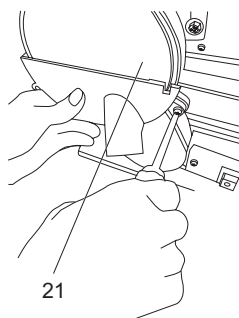

Fig. 36
- > Remove the disc guard (21) by unscrewing the screws and washers. (Fig. 36)